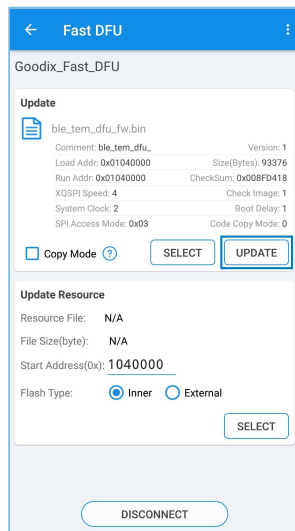

Figure 4-7 Tapping **UPDATE**
4. Tap **UPDATE** (Figure 4-7) to start updating.